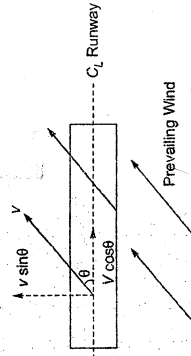

Fig. 3.1
- If the direction of wind is at an angle to runway centre line, then its components are shown in fig. 3.1.